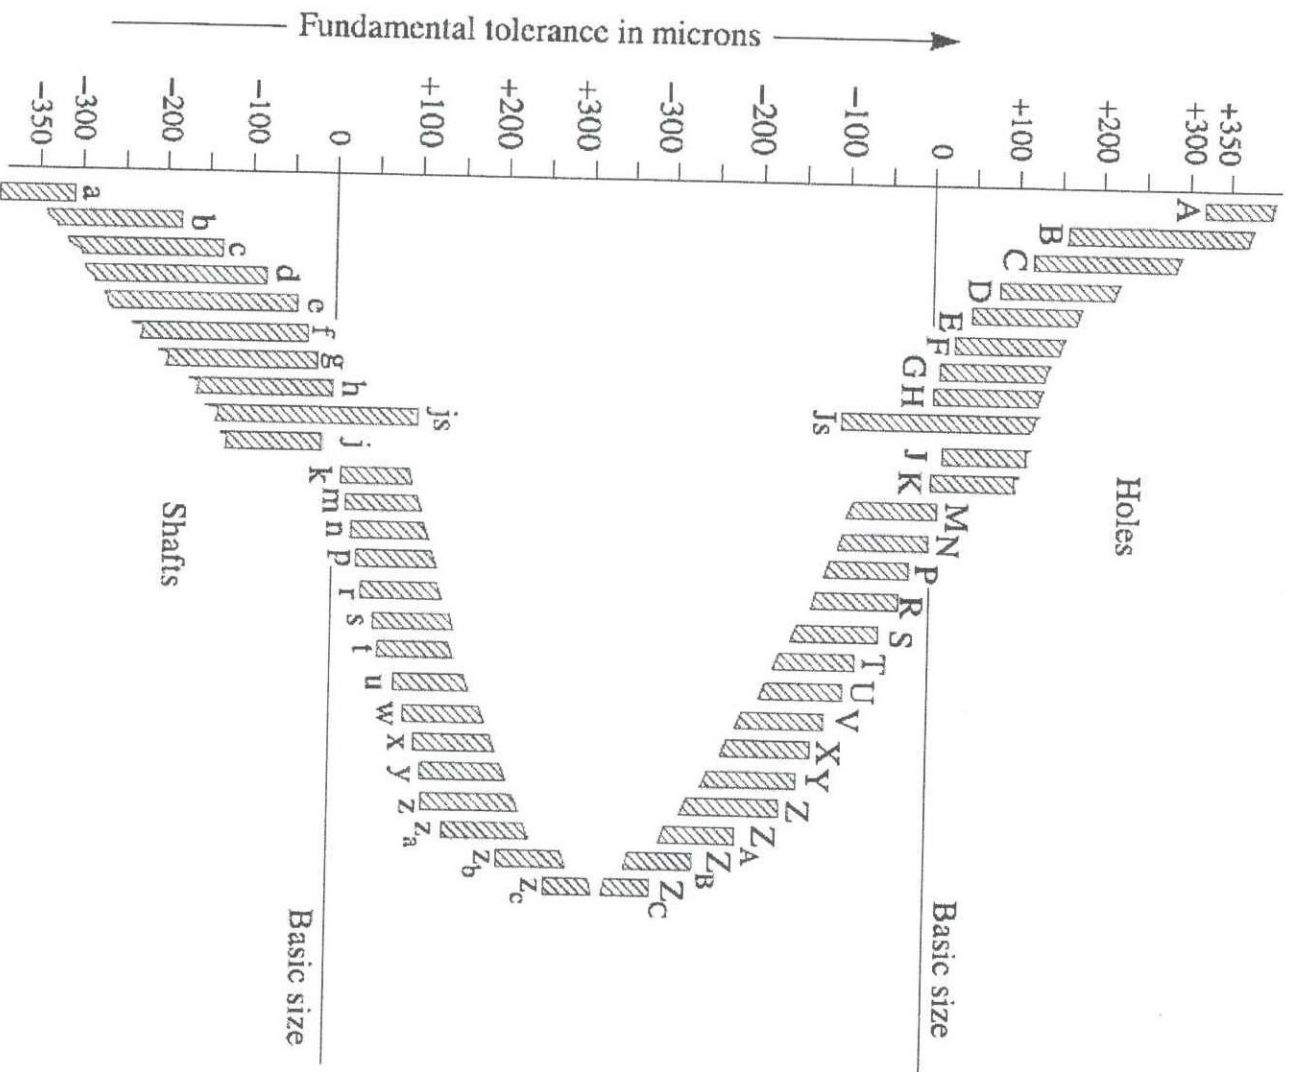

Figure Q1 The alphabetical representation of fundamental deviations for basic shaft and basic hole system
- c) Figure Q1 shows the alphabetical representation of fundamental deviations for basic shaft and basic hole system. Compare graphical interpretations for the following two fits and explain the functionality of the two fits. [3.0 Marks]